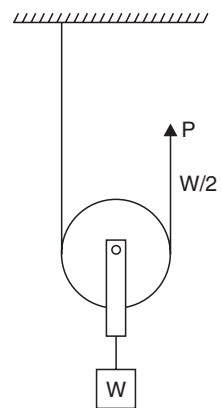

Fig. 10.5. Movable pulley.
**10.12.3. A Movable and a Fixed Pulley.** In a single movable pulley (Refer to Fig. 10.5) one end of the string is attached to the fixed support and effort  $P$  is applied at the other end. Assuming pulley to be frictionless and string and pulley to be of negligible weight, the weight  $W$  will be equally shared by the two portions of the string on fixed and moving portions as shown.